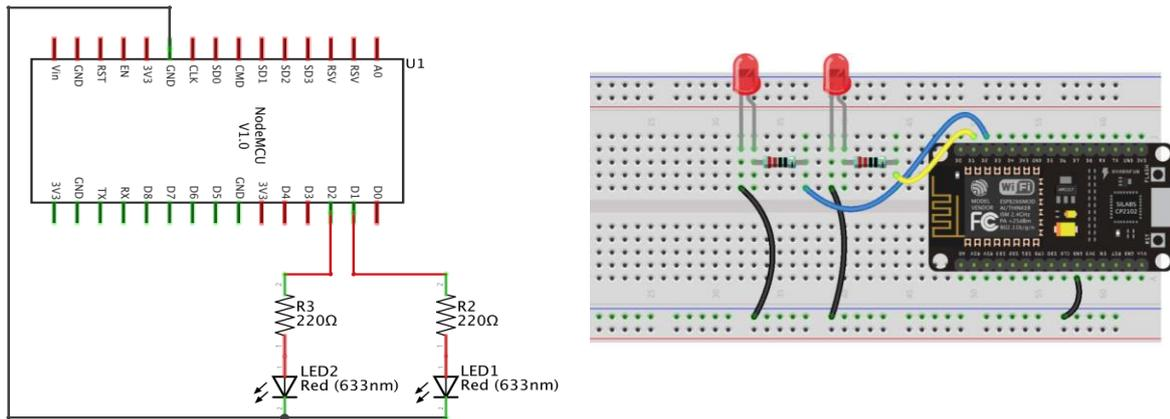

Figure A2
3. Construct the following circuit with 2x LEDs, 2x 220Ω resistors which interfaced to NodeMCU 1.0 as shown in Figure A2.